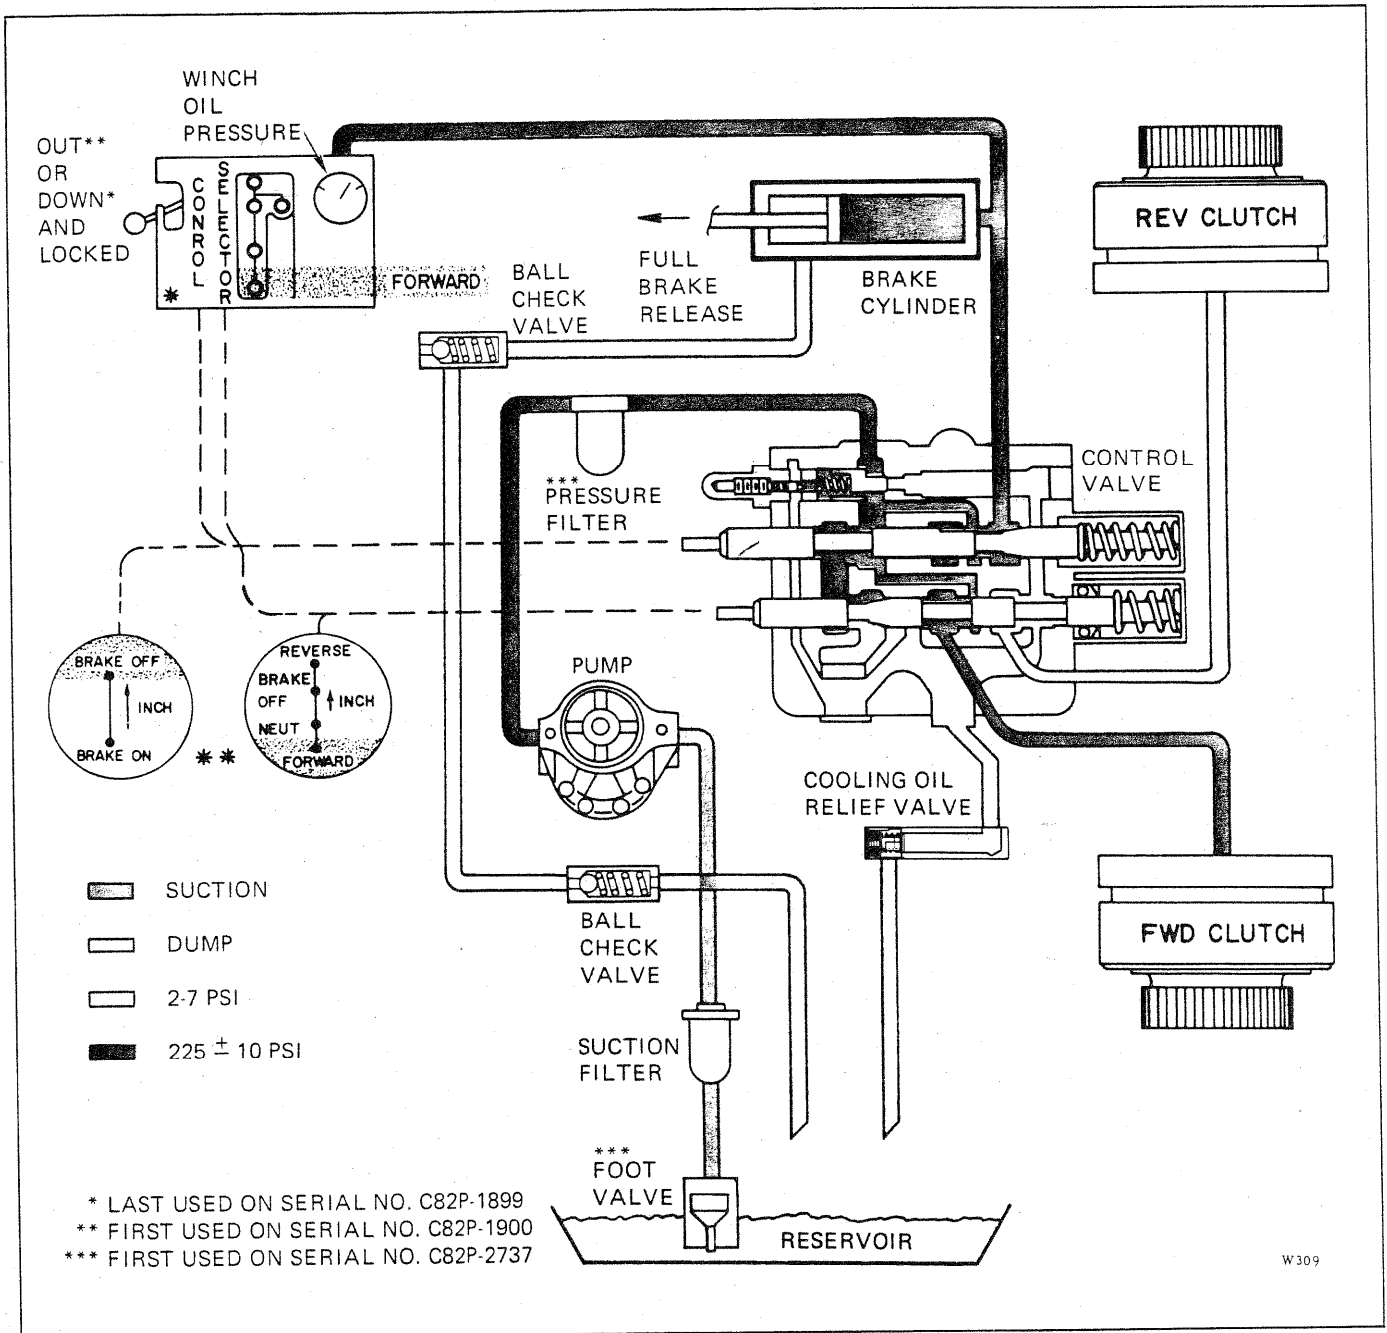

FIGURE 1-18. HYDRAULIC FLOW DIAGRAM, FORWARD, NORMAL OPERATION
1-39. HYDRAULIC SYSTEM IN FORWARD, NORMAL OPERATION. (See Figure 1-18.) On Early Production Handling Gear, the system is placed in FORWARD, Normal Operation by: (1) Moving the Control Lever Down and locking it in place and (2) Shifting the Selector Lever to FORWARD. On the later Production Handling Gear, this is accomplished by: (1) Locking the Inching Lever in the BRAKE OFF position and (2) Shifting the Selector Lever to NEU-